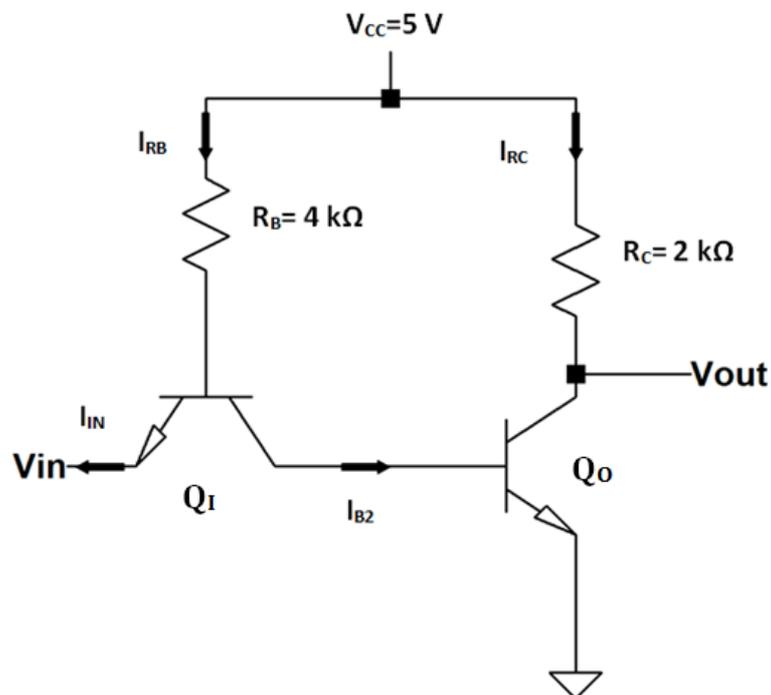

Fig. 1: The schematic view of a basic TTL inverter
3) Consider the basic TTL inverter given in Fig. 1. Assume that  $V_{BE(FA)}=0.7$  V,  $V_{BE(SAT)}=0.8$  V,  $V_{CE(SAT)}=0.2$  V,  $V_{BC(RA)}=0.7$  V,  $\beta_F=50$ ,  $\beta_R=0.1$ . Use  $\sigma_0=0.8$  (saturation parameter of  $Q_0$ ) for the output low state.